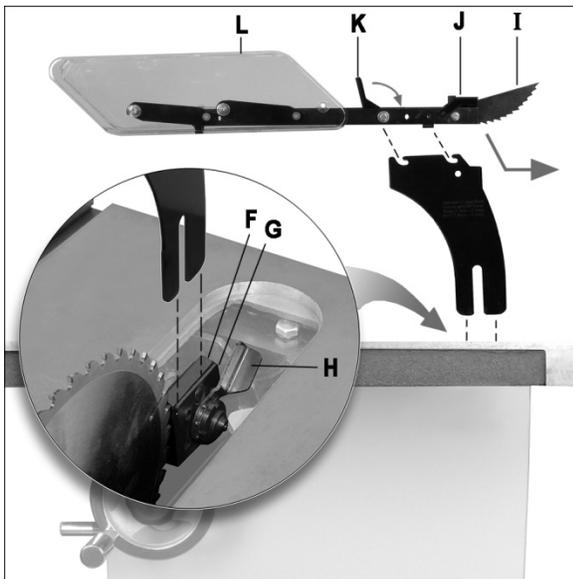

Figure 18
Refer to Figure 18.
2. Slide prongs of riving knife into slot between block (F, Figure 18) and plate (G), and push riving knife down as far as it will go.
3. Push lever (H) downward, toward blade, until tight.